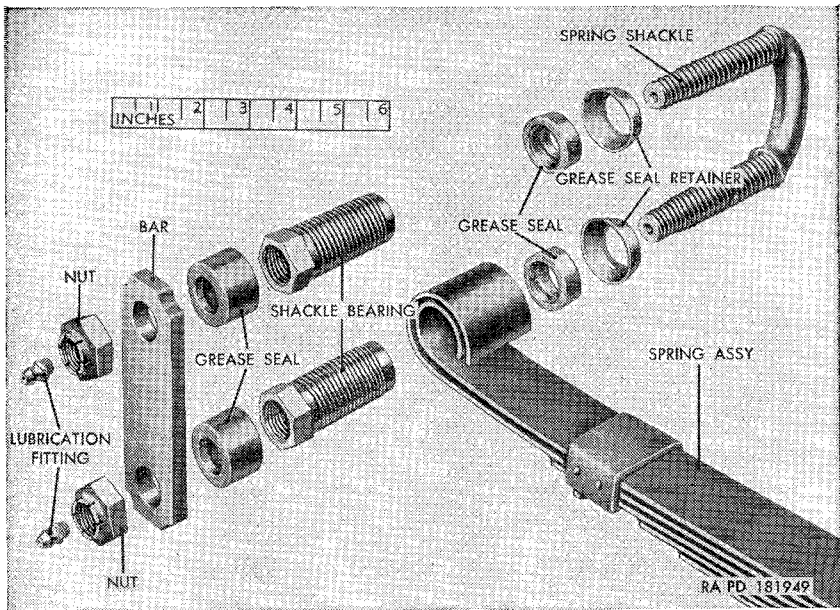

Figure 167. Spring shackle end of spring and spring shackle (M170)—exploded view.
- (2) Remove the cotter pin and unscrew the nut from the upper end of the stabilizer bar link from the **U**-bolt plate-to-stabilizer and remove the cup washer and the grommet.
- (3) Raise the vehicle frame until both tires clear the ground. Using safety stands or suitable blocking, support the vehicle
- (4) Remove the nuts securing the side plate to the spring shackle and remove the plate and the grease seals. Unscrew and remove the bushing-type shackle bearings (fig. 167).
- (5) Pull the spring shackle, with grease seals and grease seal retainers, from the eye of the spring assembly and frame side rail (for front spring) or spring bracket (for rear spring).
- (6) Slip the grease seals and the grease seal retainers off the shackle. Remove the lubrication fittings from the shackle.